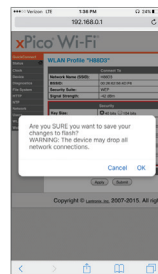

Figure 12: Complete Connection
9. Click on the OK button in the dialog box. Ignore the displayed warning during the final process. **Note:** The device in the warning is XPicoWiFi. See Figure 12.